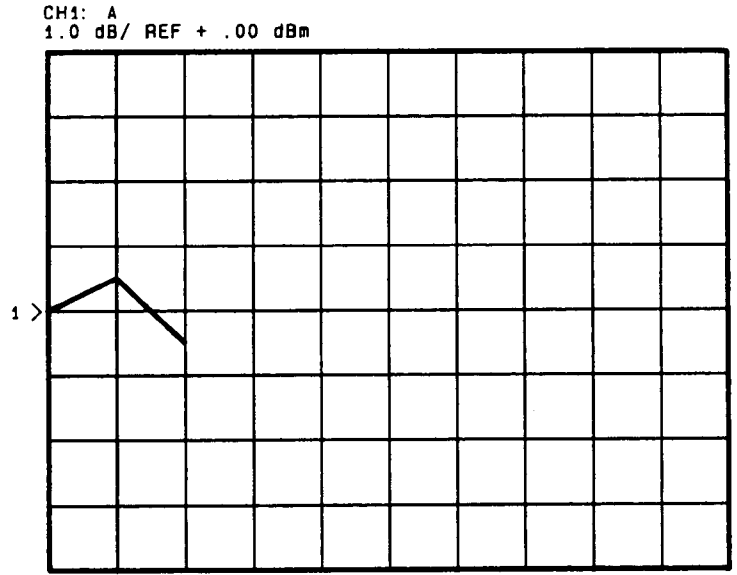

Figure 5-16. Sample Plot
38. For prompt - **SLOPE FREQ #2?**, enter the next frequency in sample Table 5-6, 3.8 GHz. Press (3) (8) then select [GHz].
39. For prompt - **SLOPE UPPER dBm?**, enter the power level 0.5 dBm. Press (0) (.) (5) (dBm).
42. For prompt - **SLOPE FREQ #1?**, enter the last frequency point of the previous slope. Press (3) (8) then select [GHz]. This starts the new slope line where the last slope ended.
43. For prompt - **SLOPE UPPER dBm?**, enter the previous power point 0.5 dBm. Press (0) (.) (5) (dBm).
45. For prompt - **SLOPE FREQ #2?**, enter the next frequency in sample Table 5-6, 5.6 GHz. Press (5) (6) then select [GHz]. This data provides the end frequency point to the second slope.
46. For prompt - **SLOPE UPPER dBm?**, enter the power level -0.5 dBm. Press (-) (0) (.) (5) (dBm). This data provides the end point power level of the second slope.
48. The LIMIT LINES plot should resemble Figure 5-16.